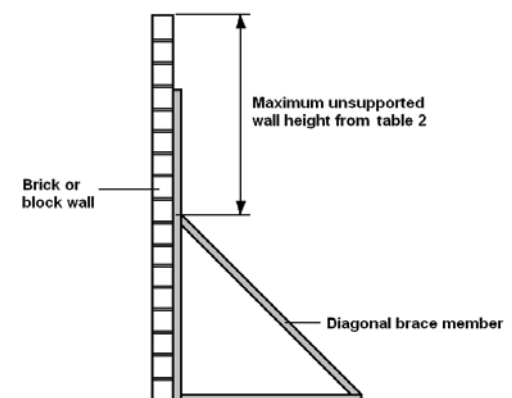

Figure 1: Illustration of unsupported wall height above a brace
- the proposed height, width and layout of walls (see table 2 and figure 1).